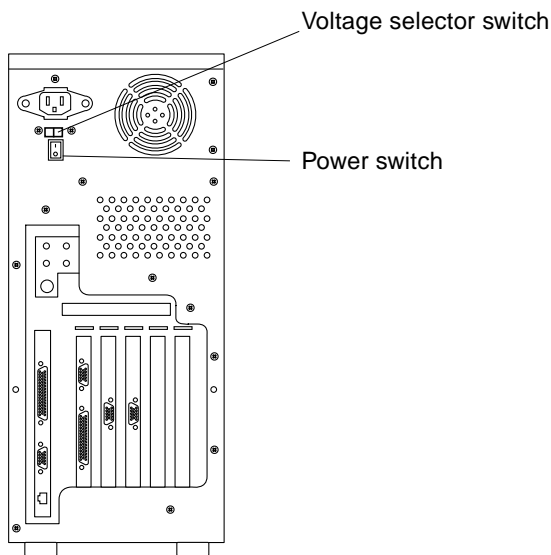

FIGURE 2-9 Ultra 10 System Power Switch
4. Set the power switch to the on position (FIGURE 2-9).